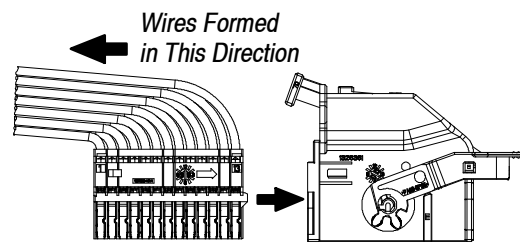

Figure 4
2. Form all wires in the opposite direction the receptacle carrier will be inserted. There are arrows on both sides of the receptacle carrier that indicate the insertion direction, see Figure 4.